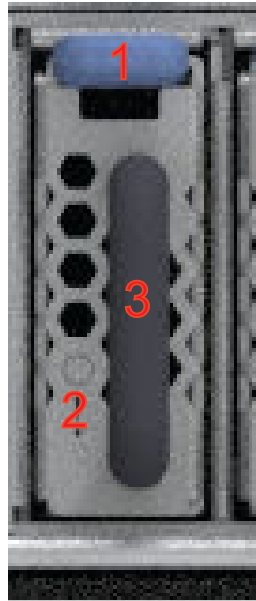

Figure 102. Removing the boot drive
7. Hold the boot drive handle (3) and press down on the release latch (1) towards the handle and pull to remove the boot drive. In Figure 102 on page 164, the faulty LED (2) location on the boot drive is shown.